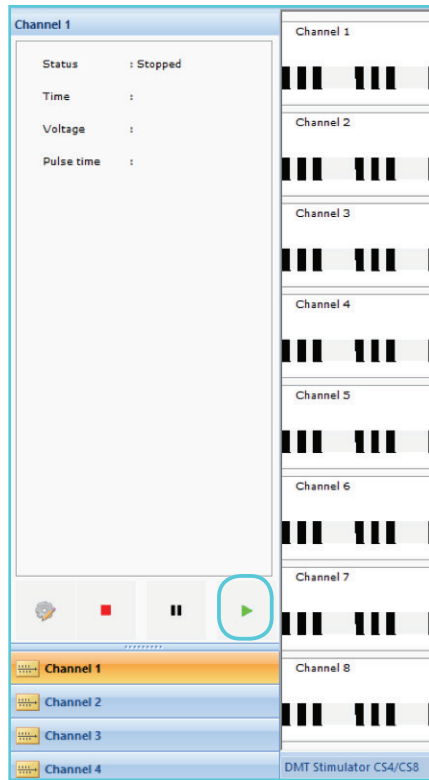

Figure 3.4.9
a) Start Channel manually: Use 'Start all channels' in the Control sub menu in the Home menu (figure 3.4.9).
Alternatively, a specific channel can be started by clicking on the channel to highlight it. Then click the 'Play Button' in the Channel status window shown in figure 3.4.9.